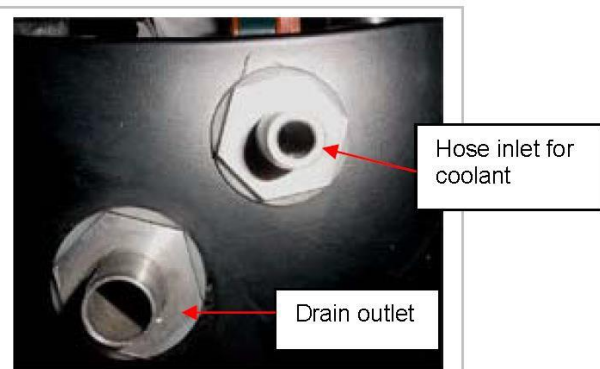

Figure 8
3. Connect the drain pipe to drain outlet and water or coolant pipe to hose inlet (Fig. 8).